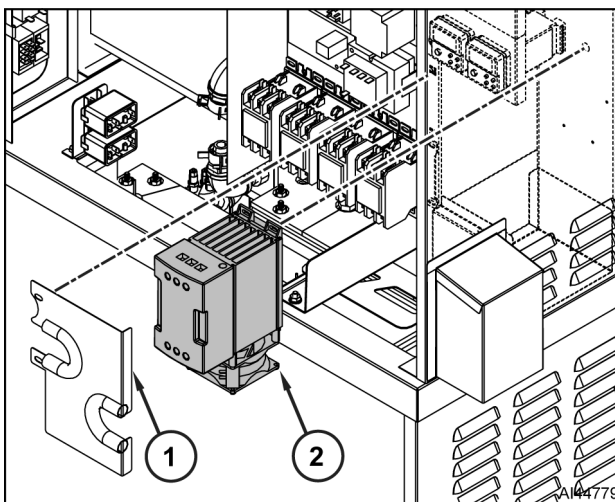

Fig. 57
2. Remove two screws and internal panel (1, Fig. 57).